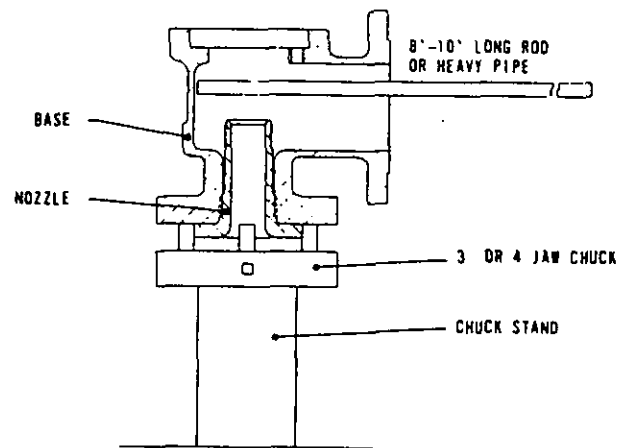

FIG. 37
- Utilize a 3 or 4 jaw chuck welded vertically to a stand bolted to a concrete floor. Chuck on nozzle flange and break the body loose from the nozzle with a heavy rod or pipe (Fig. 37).